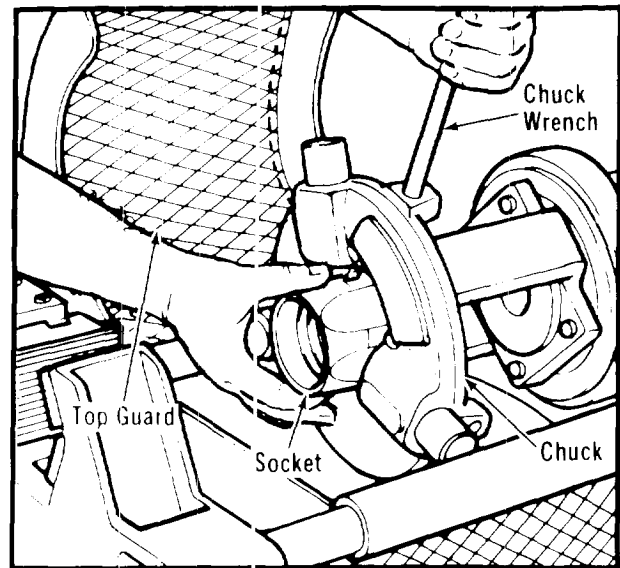

Figure 3. Tightening Socket in Chuck.
1. Open Top Guard and place socket with large end outward in chuck (Fig. 3).
2. Tighten socket in chuck using Chuck Wrench (Fig 3).
3. Remove Chuck Wrench and close Top Guard (Fig. 3).
4. Remove Chuck Wrench and close Top Guard (Fig. 3).